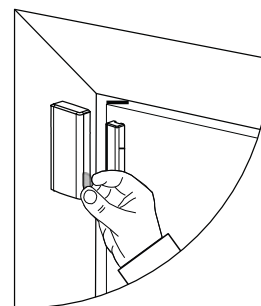

Figure 8: Battery/enrollment tab
1. Pull the battery/enrollment tab to power on the device. See Figure 8.